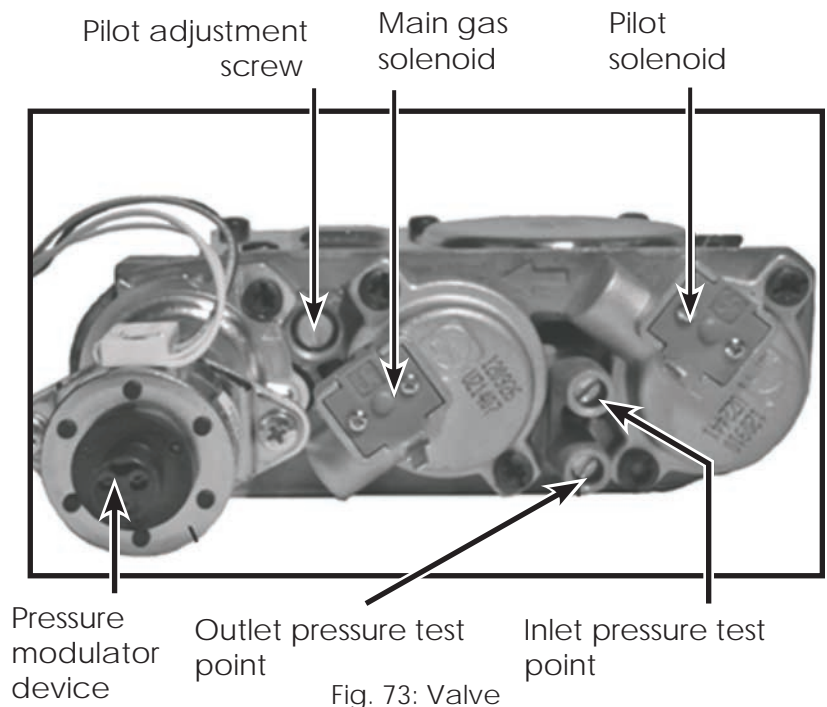

Fig. 73: Valve
2. Locate the inlet and outlet test points on the valve which can be seen in Fig. 73.
The pilot flame level can be adjusted by turning the adjustment screw, using a flat-tip screwdriver, as seen on the valve in Fig. 73.